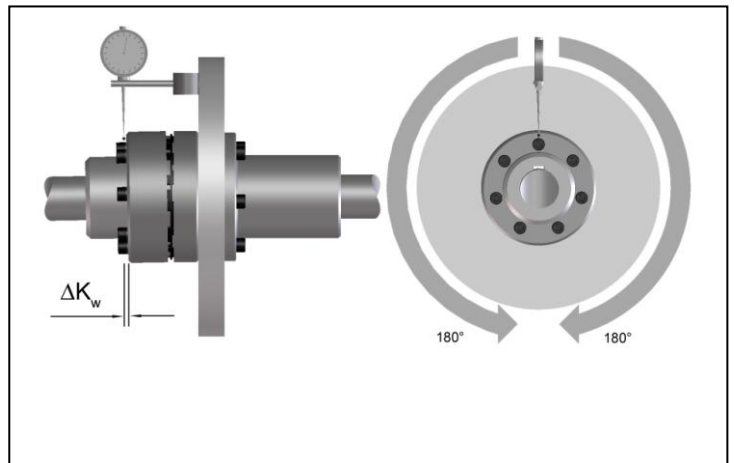

Fig. 6
- Measure on the face of the external diameter a complete rotation (360°). Determine in this case the greatest deviation  $\Delta K_{w1}$  as well as the smallest deviation  $\Delta K_{w2}$  (Fig. 6).